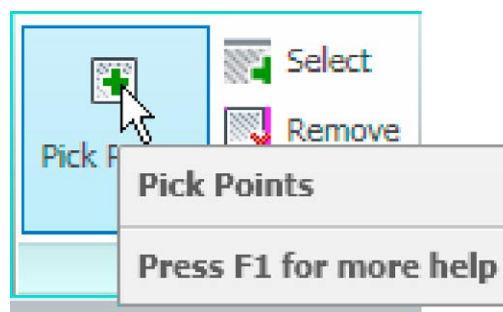

Fig. 8.8 Left-click **Pick Points** in the **Hatch Creation/Boundaries** panel
4. Left-click **Pick Points** in the **Hatch Creation/Boundaries** panel and *pick* inside the areas to be hatched (Fig. 8.8).